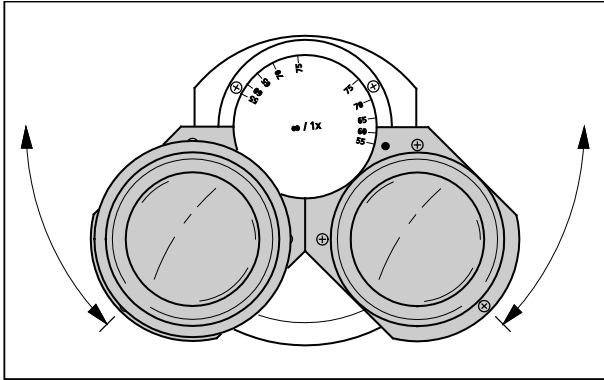

Figure 3-44 Setting the eyepiece distance at the binocular tube
- Symmetrically swing the two eyepiece sockets to adapt the eyepiece distance (interpupillary distance) to the observer's individual interocular distance (Figure 3-44).